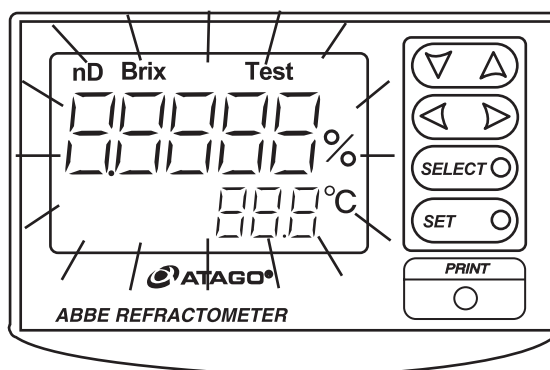

Fig. 10-7
③ As each segment of the LCD goes on and out one after another sequentially, check to see if there is a defective segment or not (Fig. 10-7). After confirming that all the segments are normal, press the SELECT key and the indication returns to [3].